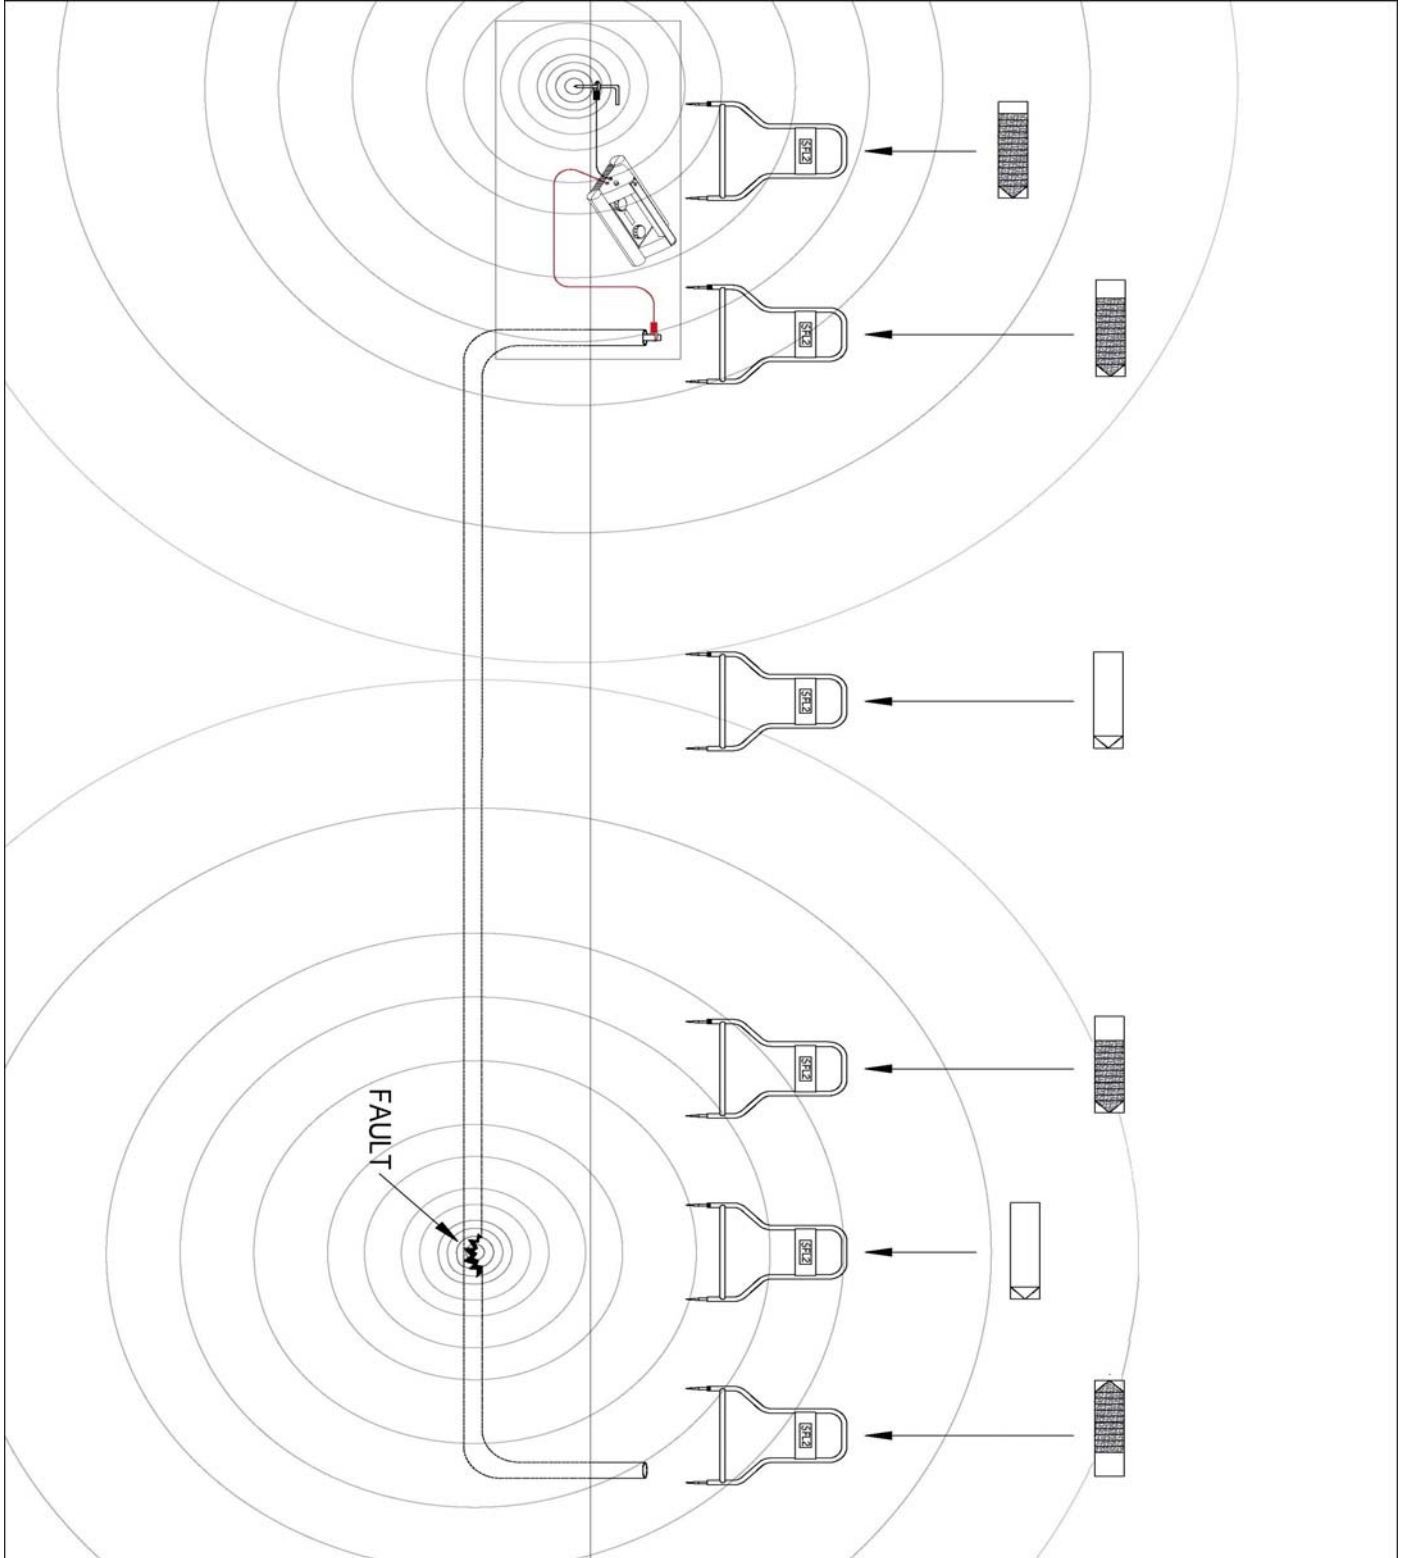

Figure 3-6 : Locating the Cable Fault with A-Frame Receiver
- 5 The number of bars will decrease when you move away from the synchronization location and will increase when you get closer to the targeted fault. **See Figure 3-6.**